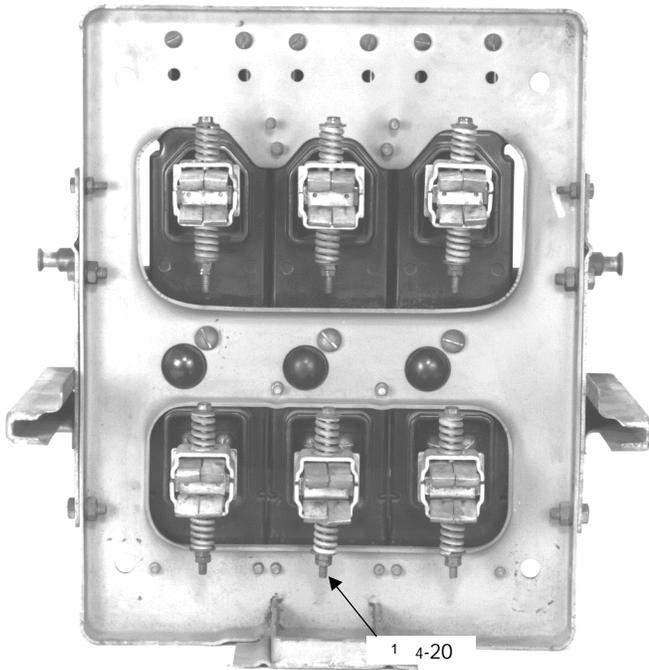

Figure 1. Draw-out primary disconnect fingers.
1. Remove and save the load terminal primary disconnect fingers on all draw-out breakers. They are held in place with a 1 4-20 bolt, as shown in Figure 1.